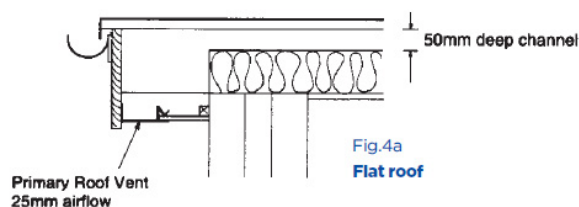

Fig.4a
- With a flat roof a free airflow is required which is equivalent to a continuous 25mm opening (25,000 mm2 per metre). See Figs. 4a,4b and 4c